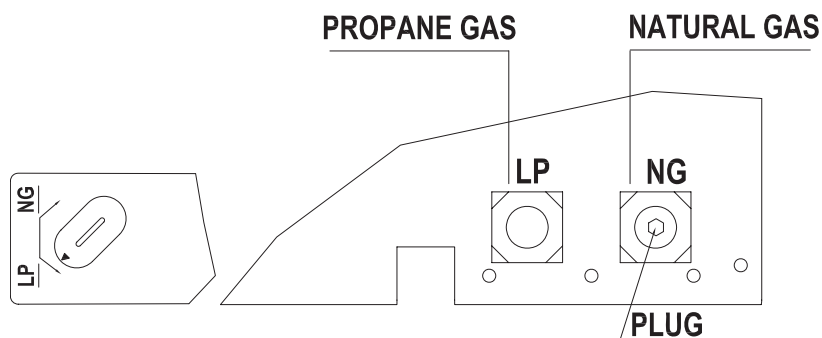

Figure 17
2. For propane gas, press in knob using a flat screw driver with a blade the thickness of a quarter and turn knob counterclockwise  until the knob locks into the LP position, see Figure 17. Selection valve must be locked in the LP position. Do not operate heater between locked positions.